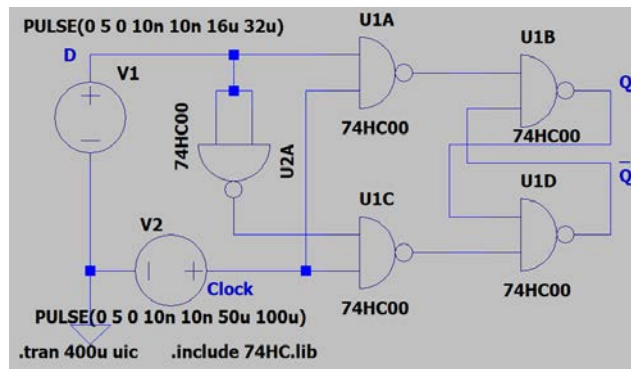

Fig. 4. A D-type flip-flop composed from four NAND gates and one inverter.
A D-type flip-flop copies the logic state of the D input to the output under the control of the clock input signal. As shown in Fig. 4, a simplified D flip-flop can be built by using four NAND gates and an inverter. The inverter can be formed by tying two input nodes of a NAND together. It is interesting to note that there are multiple implementations of D flip-flops. Fig. 4 is just one configuration. There are two input nodes, data (D) and clock (CLK), and two conjugate output nodes, Q and \bar{Q} .
Each 74HC74 IC contains two D flip-flops. There are two additional input nodes, preset (PR) and clear (CLR). Its function table is shown in Fig. 2. The output follows the D input signal at the moment when the clock signal makes an upward switching. The output stays unchanged until the next upward switching of the clock signal takes place. This is not the same as how the circuit shown in Fig. 4 operates.